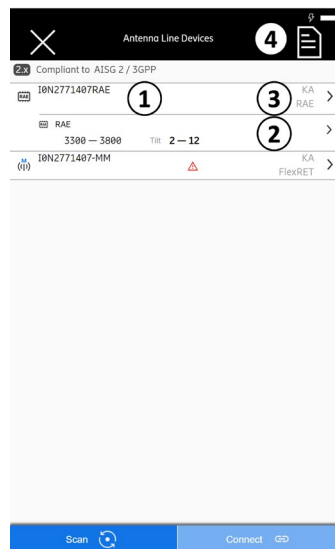

Fig. 78: Devices: Configuring the RAE
Tap ③ in Fig. 78.
1. Tap ② in Fig. 78 to open the subunit properties. The following page is shown: